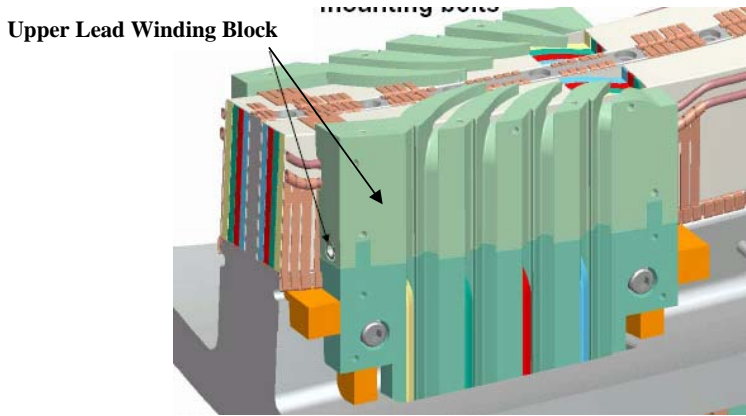

Figure 29- Upper Lead Winding Block
6.34.1 Mount the upper lead winding blocks to the MCWF for both sides “A” and “B” and secure in position with appropriate hardware. [Figure 29- Upper Lead Winding Block] Install glass cloth between G-11 fillers and fill all voids with glass tape or roving.